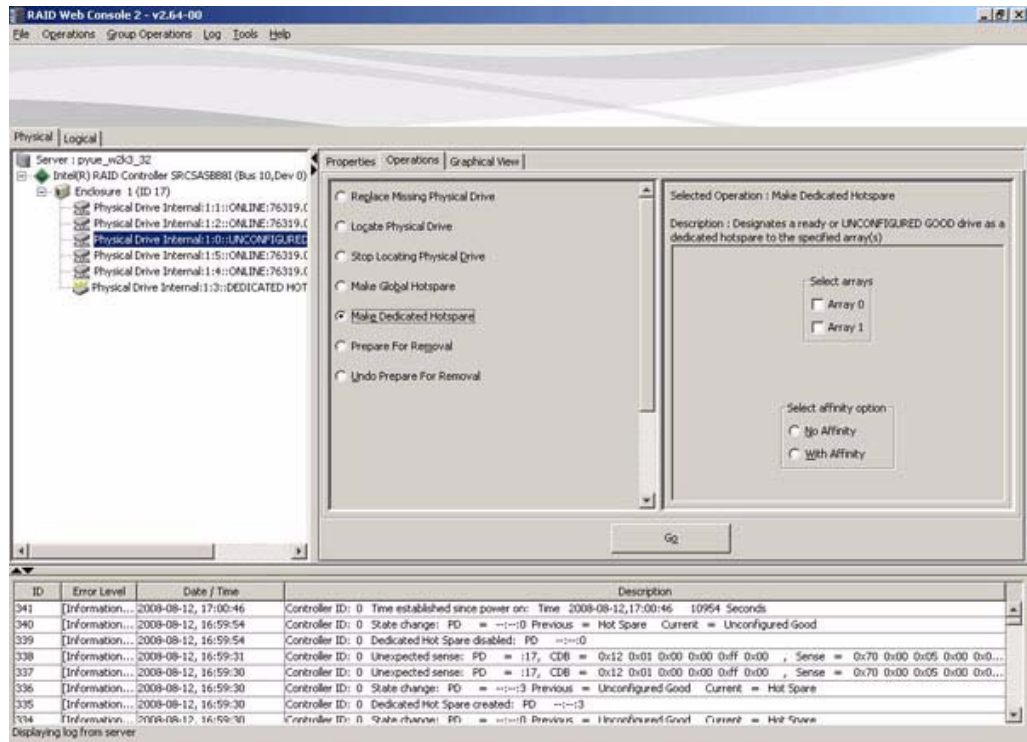

Figure 55. Creating a Dedicated Hotspare
2. In the right panel, click the **Operations** tab and select **Make Dedicated Hotspare**, as shown in Figure 55.